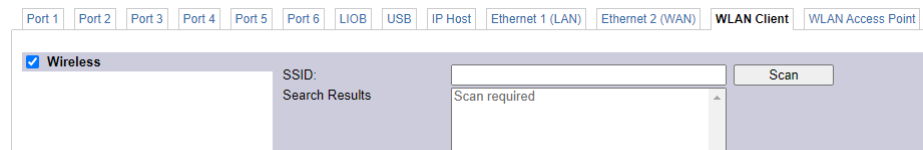

Figure 53: Wireless Port Mode
12.5. Depending on the required wireless modes, select the WLAN Client or WLAN Access Point tab. The first configuration step is to enable the **Wireless** protocol on the respective tab of the port configuration, as shown in Figure 53.